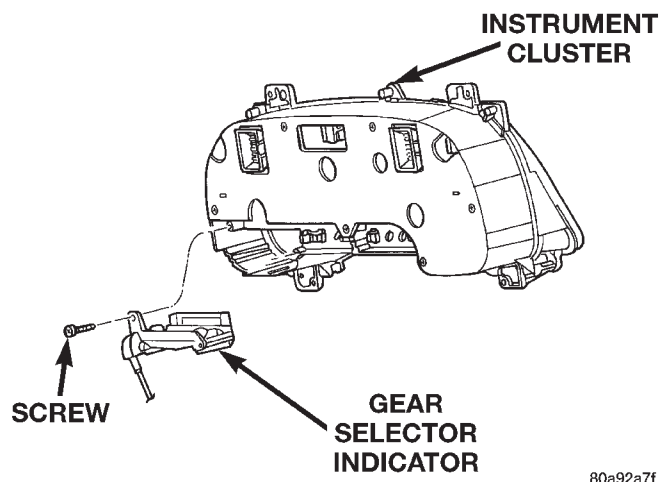

Fig. 9 Gear Selector Indicator Remove/Install
(1) Disconnect and isolate the battery negative cable.
(2) Remove the instrument cluster from the instrument panel. See Instrument Cluster in the Removal and Installation section of this group for the procedures.
(3) Remove the two screws that secure the gear selector indicator mechanism to the rear of the instrument cluster housing (Fig. 9).
(4) Remove the gear selector indicator mechanism from the cluster housing.